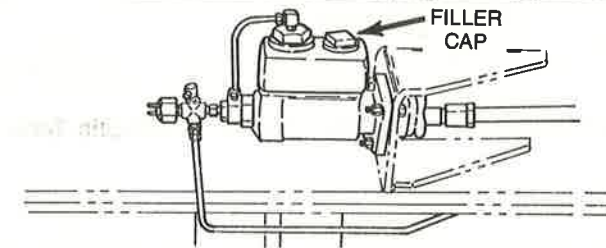

Figure 53. Brake Master Cylinder
13. **BRAKE SYSTEM** - The master cylinder is under the left front fender (See Figure 53). Access to the filler cap is through a hole in the front deck. Keep reservoir full with appropriate brake fluid per component capacities chart on page 58.